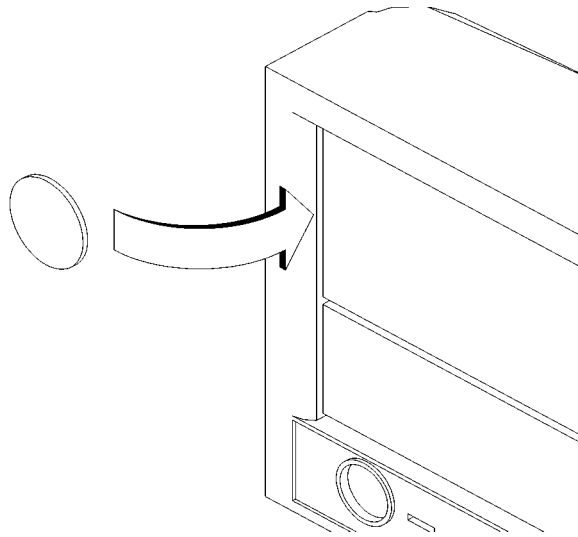

Figure 25
- 1 Remove the disk filler panel from the top location of the bezel by using a coin or other flat, blunt, object to pry it from the front., as shown in Figure 25.